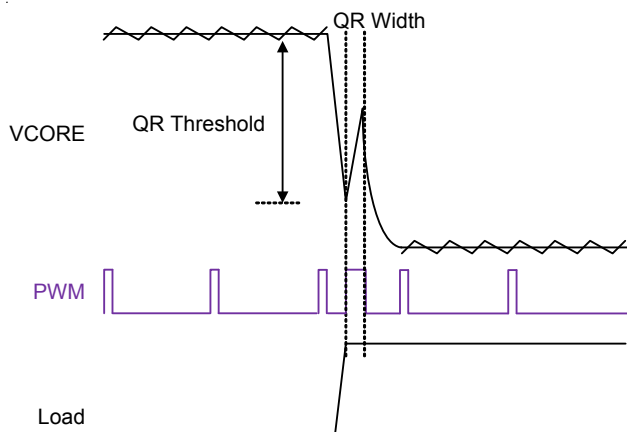
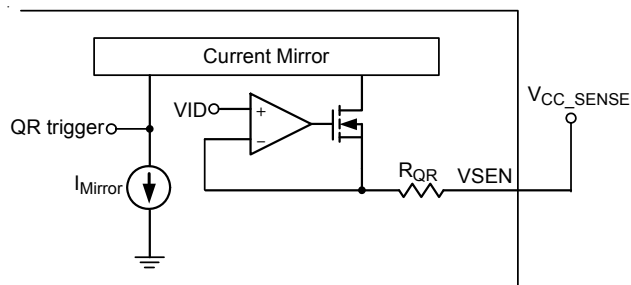

Figure 13. Quick Response Mechanism
Figure 14. Simplified QR Trigger Schematic
When the transient load step-up becomes quite large, it is difficult for loop response to meet the energy transfer. Hence, that output voltage generate undershoot to fail specification. The RT8175A has Quick Response (QR) mechanism being able to help improve this issue. It adopts a nonlinear control mechanism which can enlarge the on time of PWM signal at instantaneous step-up transient load to restrain the output voltage drooping, Figure 13 shows the QR behavior.
The output voltage signal behavior needs to be detected so that QR mechanism can be triggered. The output voltage signal is via a remote sense line to connect at VSEN pin that is shown in Figure 14. The QR mechanism needs to set QR width and QR threshold. Both definitions are shown in Figure 13. A proper QR mechanism set can meet different applications. The SET2 pin is a multi-function pin which can set QR threshold, QR width and ICCMAX.